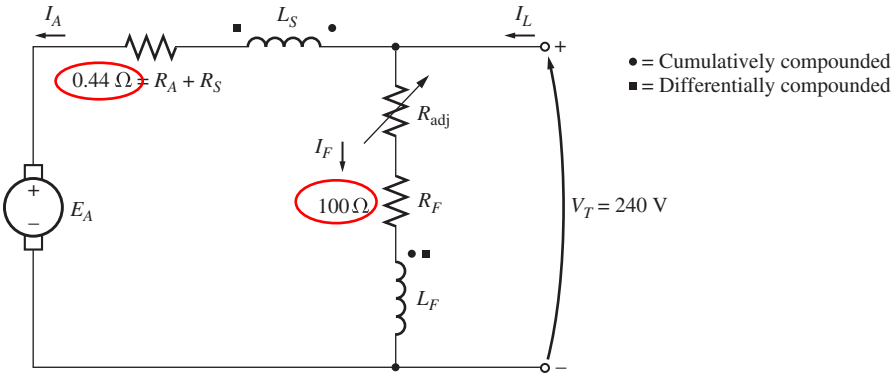

FIGURE P9-4
- 9-10. If the motor is connected cumulatively compounded as shown in Figure P9-4 and if $R_{adj} = 175 \Omega$, what is its no-load speed? What is its full-load speed? What is its speed regulation? Calculate and plot the torque-speed characteristic for this motor. (Neglect armature effects in this problem.)